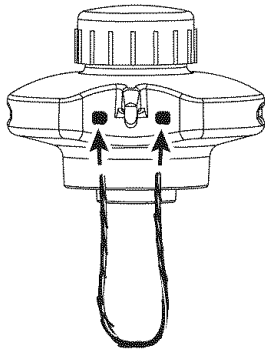

Fig. 12
1. Insert each end of the replacement line into the holes on either side of retention hook (Fig. 12).